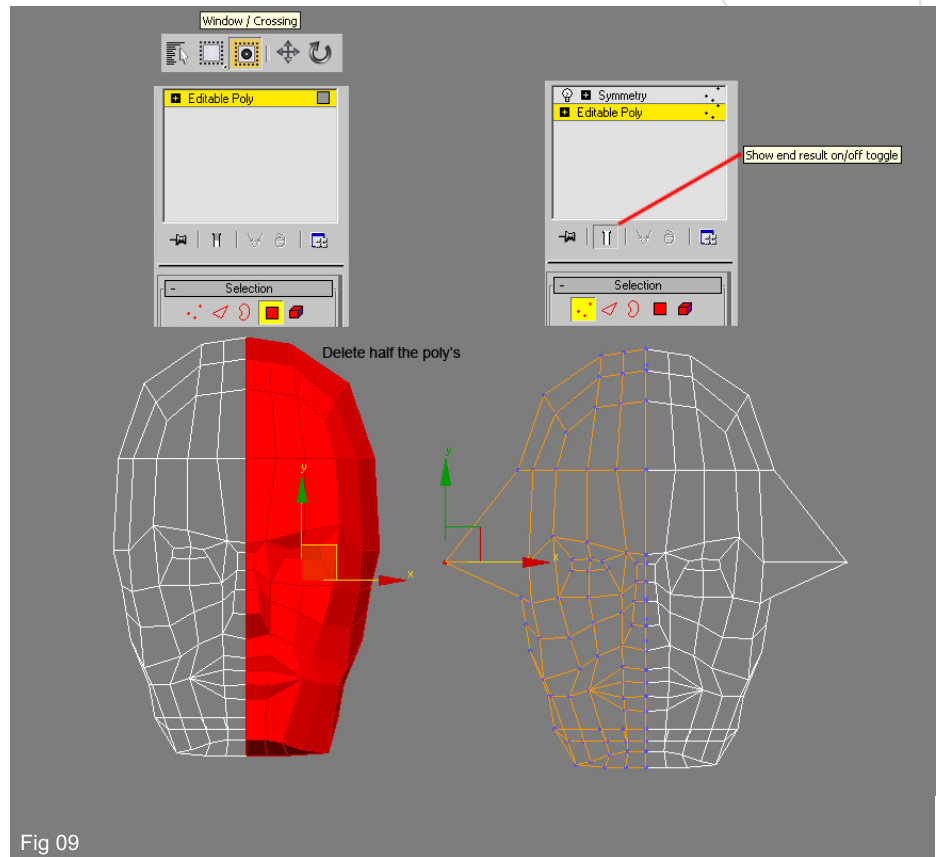

Fig 09
9. Now that we have a reasonable amount of detail it is time to delete half of our mesh and apply the Symmetry modifier in order that we can work on just one half of the model and see the results mirrored in a duplicate. In this way we can ensure that the head is the same either side of the central line but reduce the number of poly's that need manipulating. Begin by selecting the "Window/Crossing" icon on the tool bar along the top of the viewports (top left Fig09). Now in sub-object poly mode, select all of the right half of the head (make sure Ignore Backfacing is unchecked) by including part of the left side just past the central line. Delete these poly's, go to the top of the stack and then apply a Symmetry modifier from the modifier list making sure the head is mirrored along the vertical axis as shown on the right of Fig09. When you go down the stack to the Editable poly level the duplicate will now disappear. Toggle the "Show end result" button so that you can see the copy and now when you work in sub-object mode at the editable poly level you will see the results mirrored (bottom right of the image).